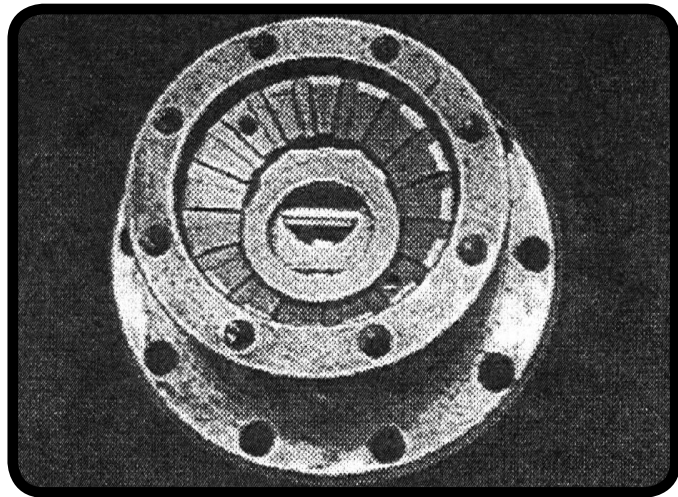

Figure 11
6. Turn the other driver over and hold it so that the stop pins line up with the springs in the lower driver. Carefully lower it until the pins rest on the springs (see **Figure 11**). Push it up and down to be absolutely sure that everything is in place that all springs are functioning properly. Proper operation of the parts at this point is very important!